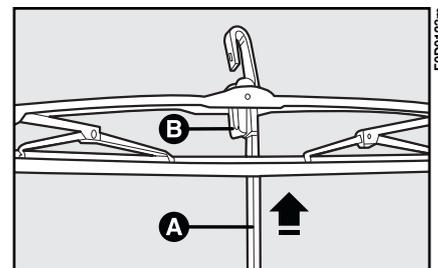

fig. 18
- 1) Lift windscreen wiper arm **A** **fig. 18** off the glass and position the blade so as to form a right angle with the arm.